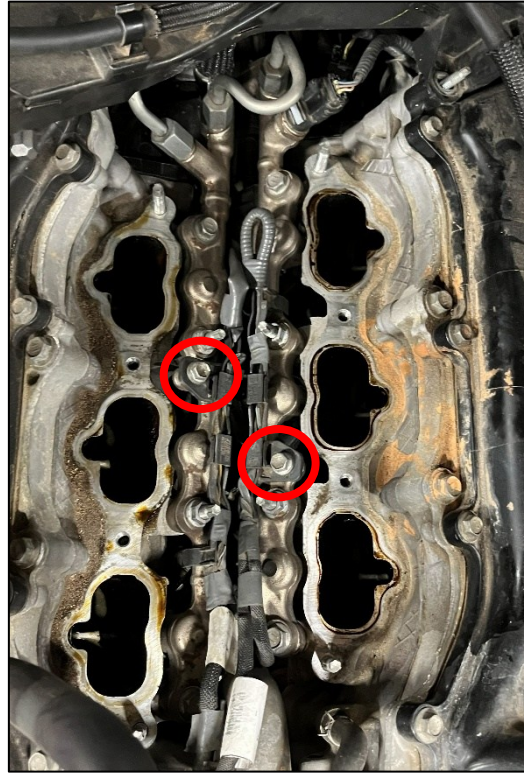

Figure 10
18. Remove the (2) two bolts securing the Fuel Rail Harness to the Fuel Rails. *Figure 10.*